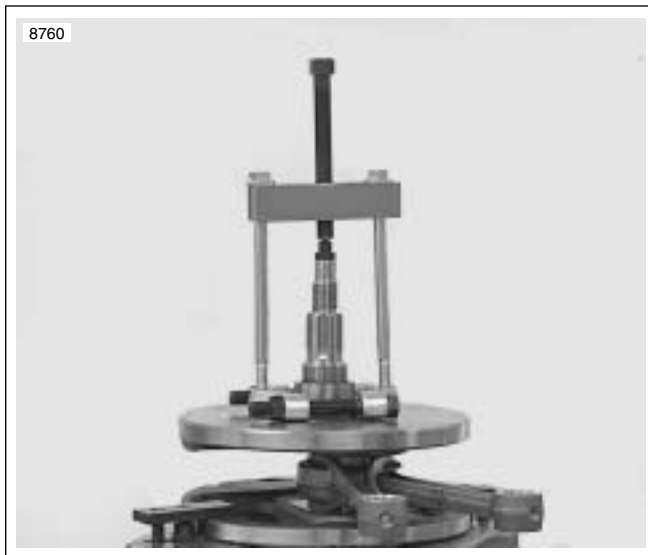

Figure 3-140. Removing Sprocket Shaft Inner Bearing Race
3. See Figure 3-140. Place flywheel assembly in FLY-WHEEL SUPPORT FIXTURE (Part No. HD-44385). Pull sprocket shaft bearing inner race with WEDGE ATTACHMENT for CLAW PULLER (Part No. HD-95637-46A) with BEARING RACE REMOVER/INSTALLER (Part No. HD-34902B) and END CAP (Part No. HD-34902-7).